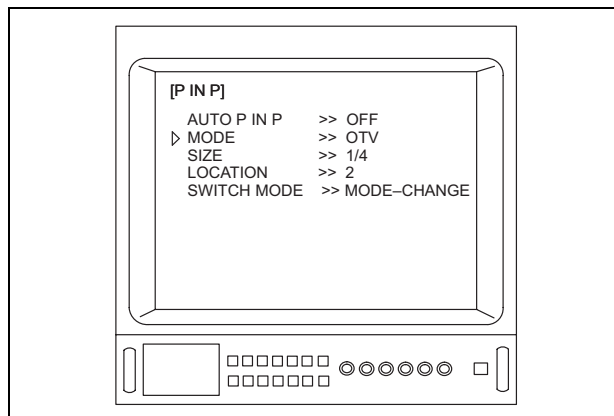

Figure 5.119
7. Depress the menu switches “◀” or “▶”, or the “↑/↓/←/→” key on the keyboard to move the arrow “▷” to “MODE” (see Figure 5.119).
Depending upon the OTV-S7V's settings, the menus shown in Figures 5.119 and/or 5.120 may appear different from those displayed on the video monitor.